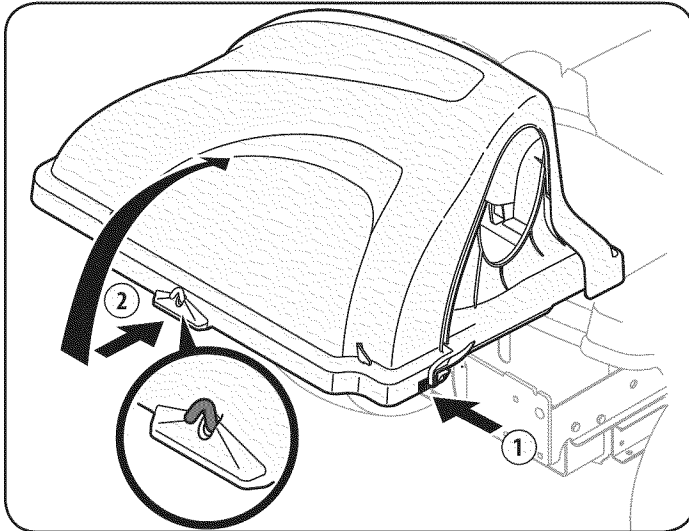

Figure 16
7. Open grass catcher cover by pushing in on the rear, right-side tab with your right-hand, as seen in 1 of Fig. 16, and lifting with your left-hand in the rear center, 2.